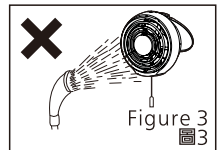

Figure 3
- Do not allow water to contact electrical parts such as motor. (Figure 3)